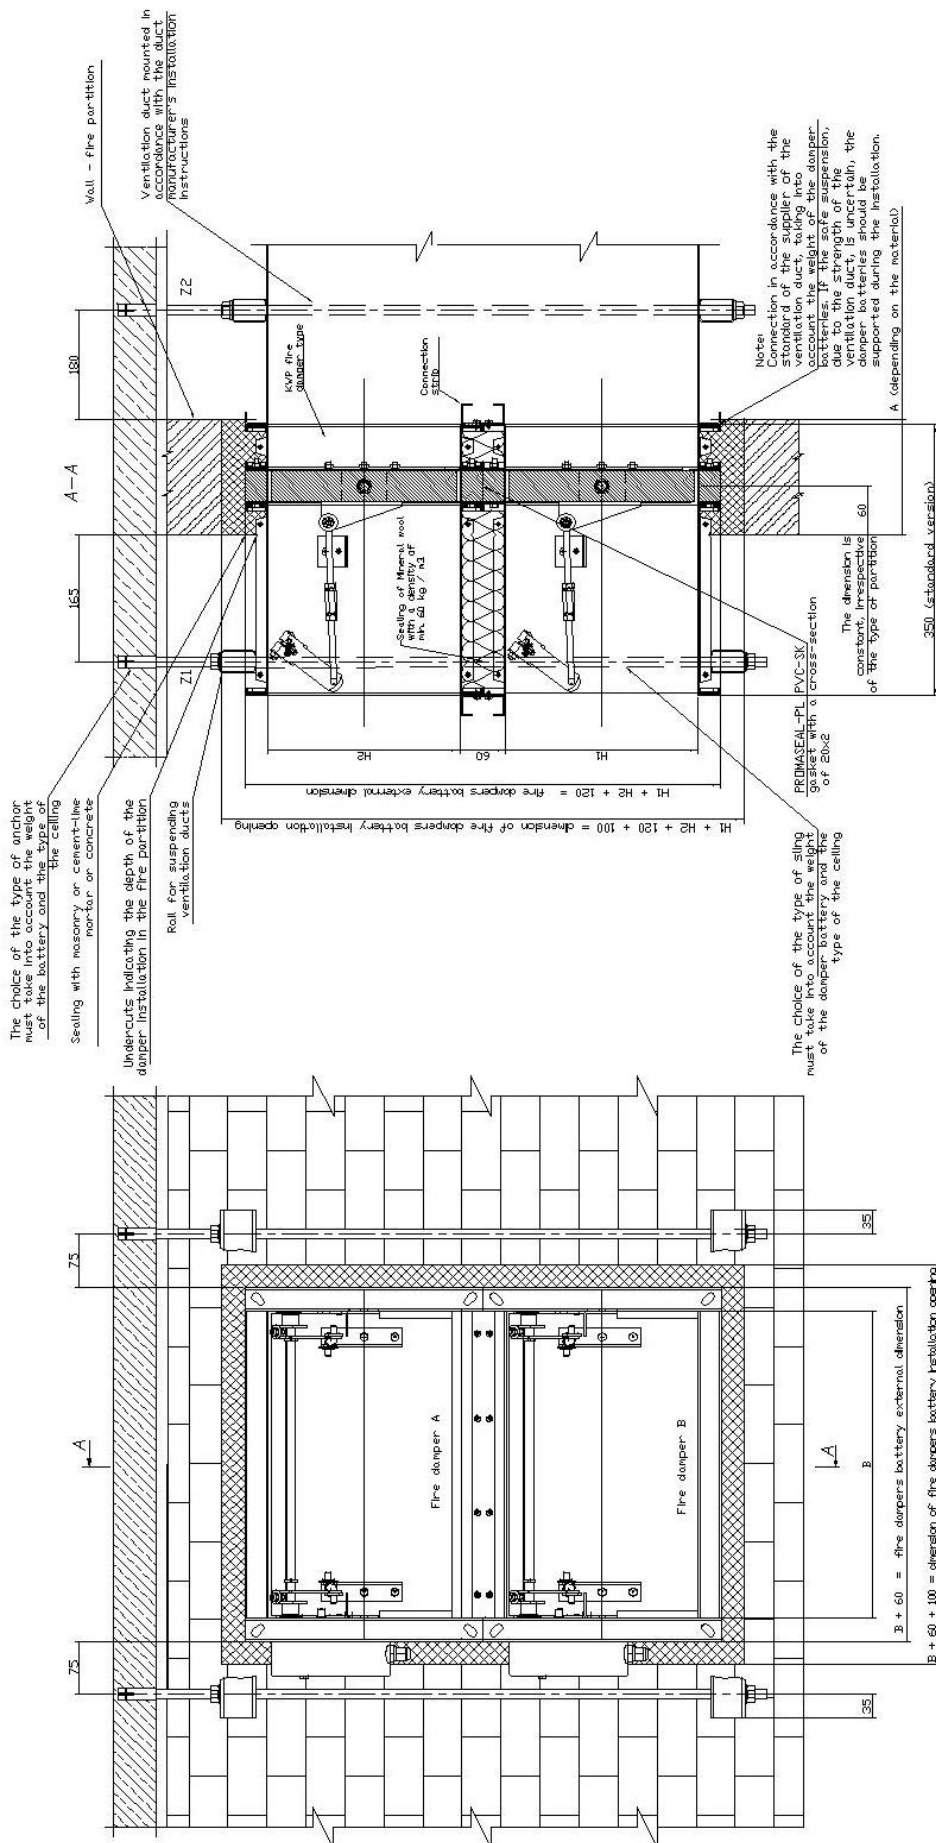

Figure 13. Installation of a battery consisting of two fire dampers KWP in vertical arrangement in ceiling
**Arrangement 3** - horizontal battery consisting of two fire dampers KWP (Figure 13)
- a. Fix the gasket on insulating spacer of one of adjoining fire dampers (position (1) in the Figure 13).
- b. Set together the sides of fire damper A and the fire damper B (where the gasket was fixed) and assemble them together on the front and back with use of perforated assembly strips (2) and self-tapping screws M6x16 (3), which should be tightened into the openings in fire damper body. In order to carry out the correct assembly, 4 self-tapping screws should be used per each assembly strip with length of 1200 [mm].
- d. The place of sealing the top of the fire damper with mineral wool should be sealed with aluminum tape (4).
- a. Fix the gasket on insulating spacer of one of adjoining fire dampers (position (2) in the Figure 13).
- c. Place the set of fire dampers A and B on the set of fire dampers C and D and assemble them together on the front and back with use of perforated assembly strips (5) and self-tapping screws M6x16 (6), which should be tightened into the openings in fire damper body. In order to carry out the correct assembly, 4 self-tapping screws should be used per each assembly strip with length of 1200 [mm].